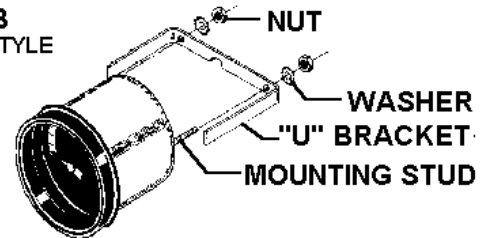
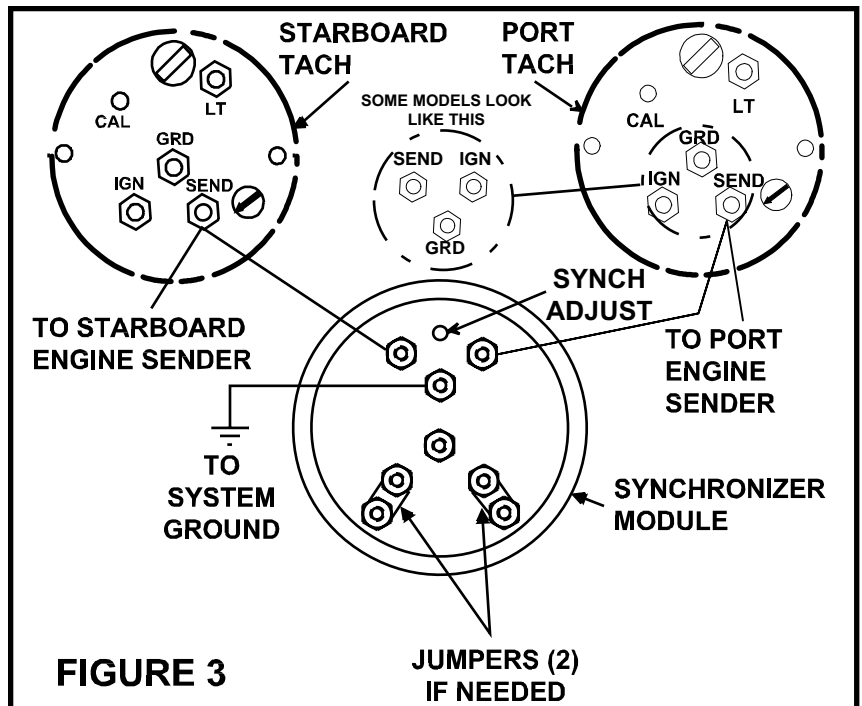

FIG.2A
FIGURE 3
1. Refer to Figures 2A through 2C and determine which style gauge you have. If you have the style shown in Fig. 2A, run a wire from the "G" terminal of Gauge to "IGN" terminal of ignition switch.
4. Refer to Figure 3. Wiring shown will cause Gauge pointer (for types shown in Figures 2A and 2B) to move in direction of faster engine. Type shown in Figure 2C will move towards slower engine. If desired, this may be changed by reversing connections at Module shown below and in Figure 3 A and B.
A. Run a wire from sender (S) terminal of Starboard Tachometer to Starboard engine tach terminal of Module.
B. Run a wire from sender (S) terminal of Port Tachometer to Port engine tach terminal of Module.
The preferred method is to use a Module for each gauge. The alternative is to use one Module, and wire the Gauges in parallel - that is, Ign to Ign, Port to Port, Stbd to Stbd. In this case, the Jumpers (Figure 3) **must** remain in place.
2. The Gauge and Module are calibrated for extreme accuracy in detecting differences in engine speeds. In some cases, it may be necessary to decrease the sensitivity of the unit. Removal of the Jumper tabs (See Figure 3) on the Module will decrease sensitivity as shown on the Gauge. This means a greater difference of engine speeds will be required for an equal deflection of the Gauge pointer. If your application uses two Gauges from one Module, the Jumpers **must not be removed.**